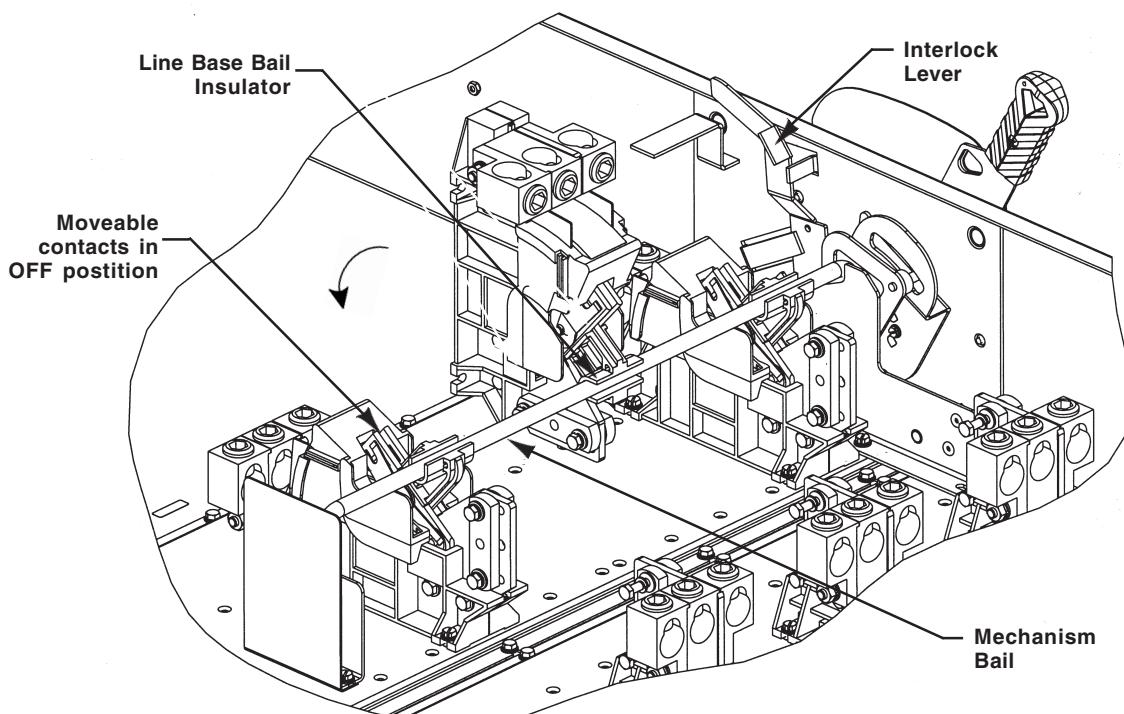

Fig. 2
3. Verify that the Moveable Contacts are in the **OFF** position. **See Figure 2**.
11. Place Line Base Bail Insulator into Mechanism Bail and rotate new Line Base assembly into position, see **Figure 2**. Slide Line Base assembly into Mounting Screws left loosened above. Insert the two (2) remaining $\frac{1}{4}$ - 20 x $\frac{1}{2}$ " Mounting Screws but do not tighten.
- a. Move the Safety Switch Handle to the **ON** position (Hold Interlock Lever below the front of the enclosure to operate switch with the door open. **See Figure 2**)